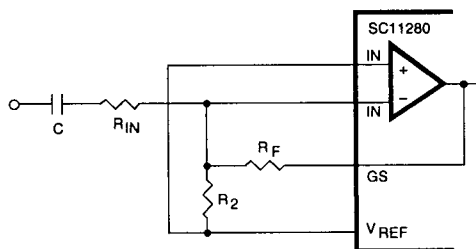
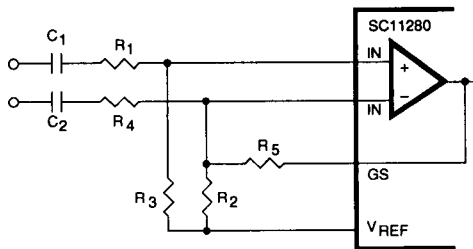

Figure 1. Single Ended Input Configuration
Figure 2. Differential Input Configuration
The input arrangement of the SC11280 provides a differential-input operational amplifier as well as a bias source (V_{REF}) which is used to bias the inputs at $V_{CC}/2$. Provision is made for connection of a feedback resistor to the op-amp output (GS) for adjustment of gain. In a single ended configuration, the input pins are connected as shown in Figure 1. Figure 2 shows the necessary connections for a differential input configuration.